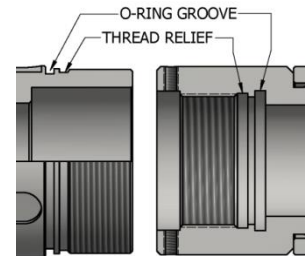

Fig. 2
**CAUTION6:** To ensure tool operates properly, install o-rings in o-ring grooves, **NOT** thread reliefs unless stated otherwise (Fig. 2).